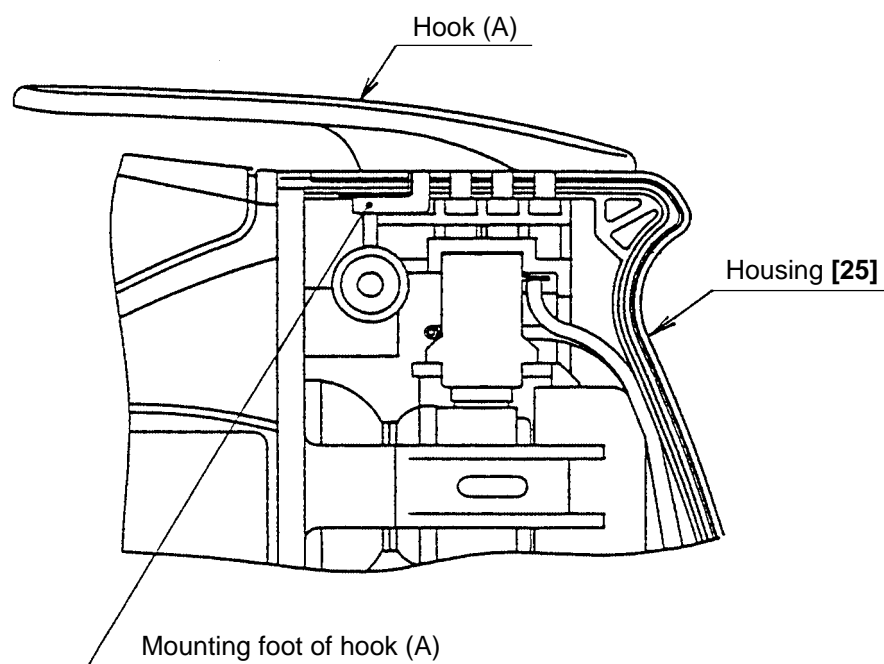

Fig. 4
- (1) Loosen the Tapping Screw (W/Flange) D4 x 20 (Black) **[31]** and remove the Handle Cover **[32]**.
- (2) Insert the mounting foot of hook (A) into the air vent of the Housing **[25]** as shown in Fig. 4.
- (3) Mount the Handle Cover **[32]**.